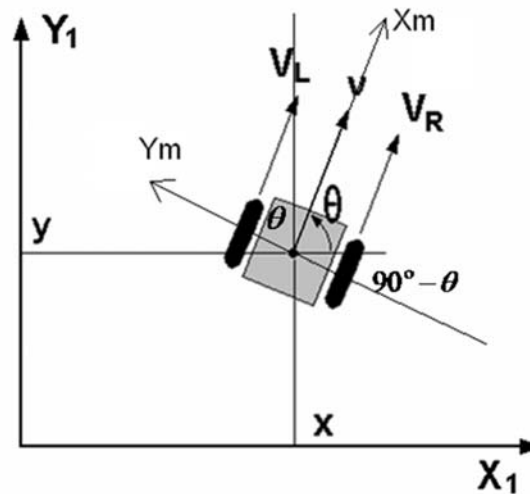

Figure Q3[b]
- [b] Figure Q3[b] shows the differential type wheel mobile robot (WMR). Write the kinematic model for world frame and robot frame.